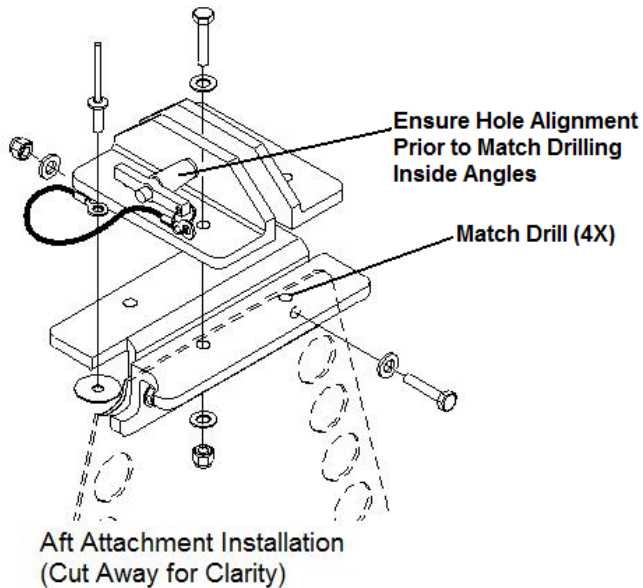

Figure 3: Aft Attachment Details (Typical)
22. Remove aft external attachment brackets by reaching inside tank to access nuts, washers and bolts securing backup angles (Figure 3).
25. Temporarily install interior angles (308-302006-001) as shown in Figure 3 using supplied hardware or other fixture.
26. Position exterior angles (308-302005-001) over mounting holes, install quick release pin or other 5/16" hardware to ensure alignment and match drill ϕ 0.255" mounting holes (2 places per angle) through interior angles (Figure 3).
29. Install angles to tank with hardware supplied in kit as shown in Figure 3 using 732 Sealant.